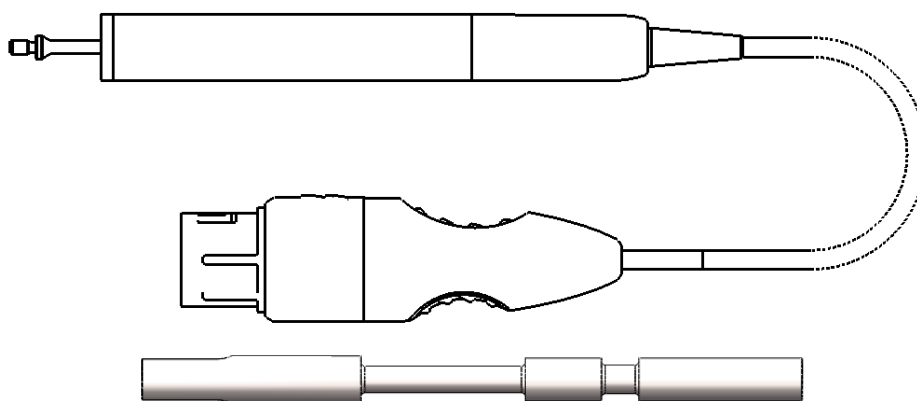

Figure 1 Diagram of Handpiece and Test Tip
See Figure 1 for the diagram of the handpiece and test tip.
① Diagram (Figure 1)